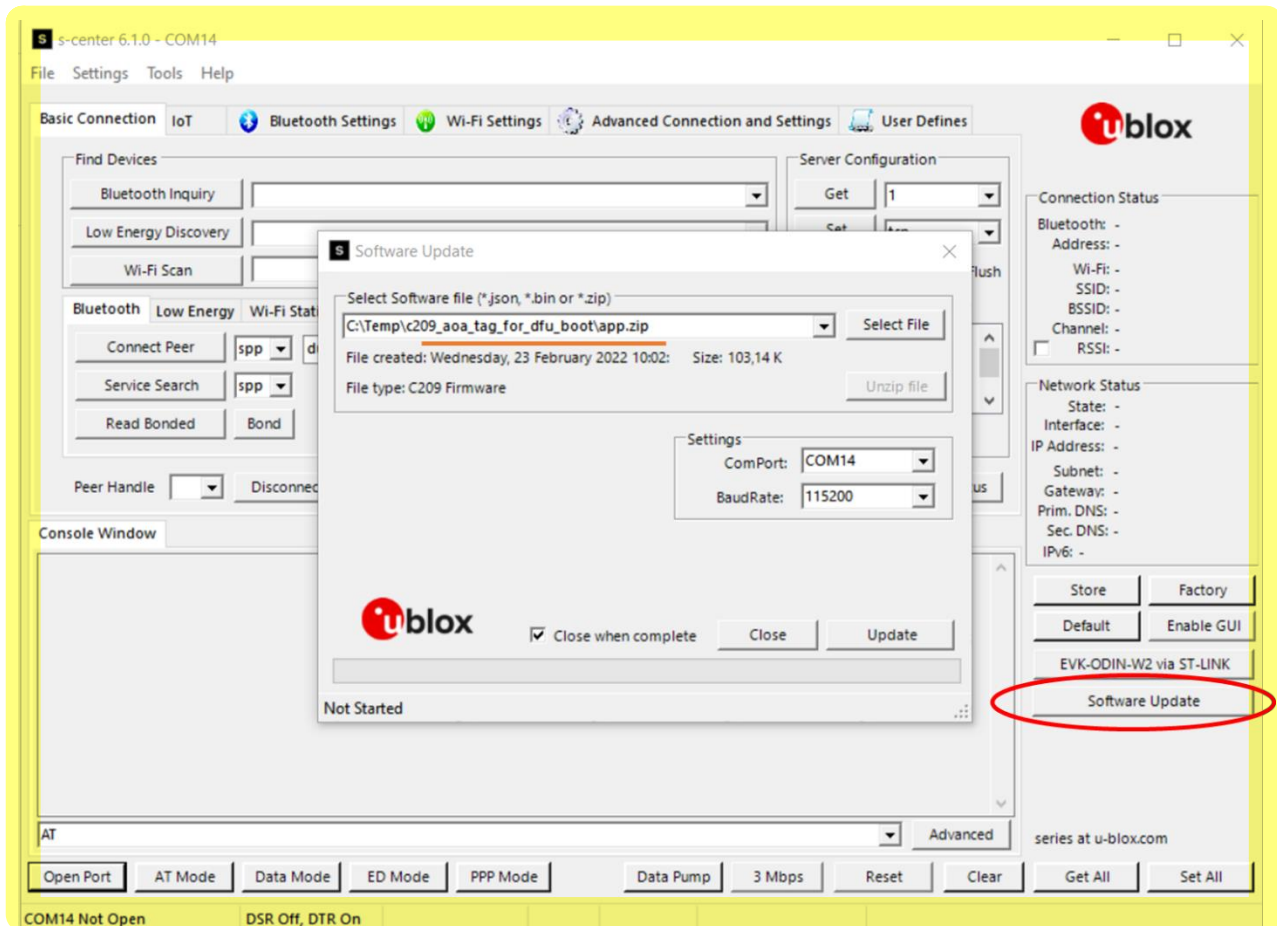

Figure 14: Updating the SW on the C209 board via s-center
4. In the “Software Update” dialogue, select the `app.zip` file from the software container, as shown in Figure 14. Make sure the flashing speed is set to 115200.